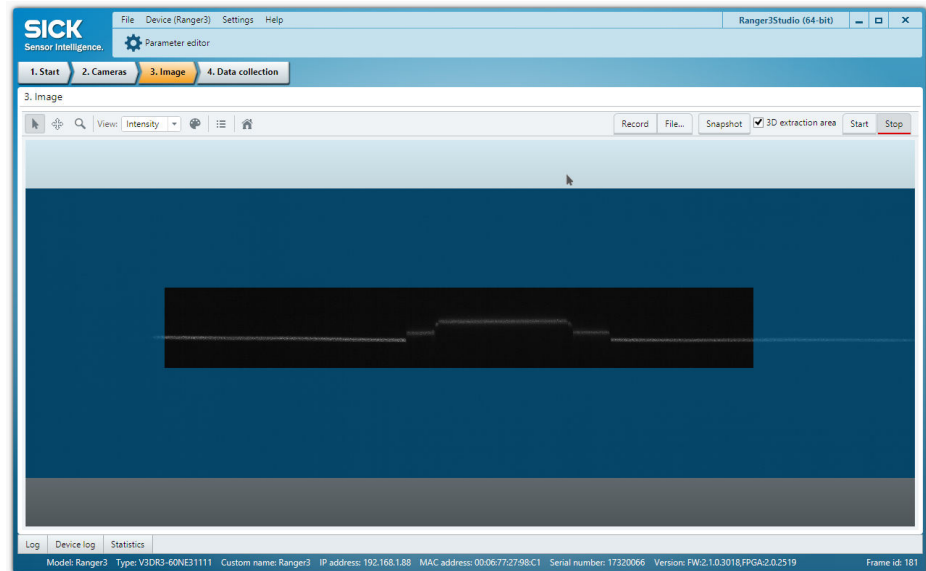

Figure 46: 2D image with blue overlay
- ✓ A blue overlay appears in the 2D image (see figure 46). The overlay represents the parts of the image to be excluded from the generation of 3D image data. The remaining dark area is the extraction area (corresponding to **Region1**).